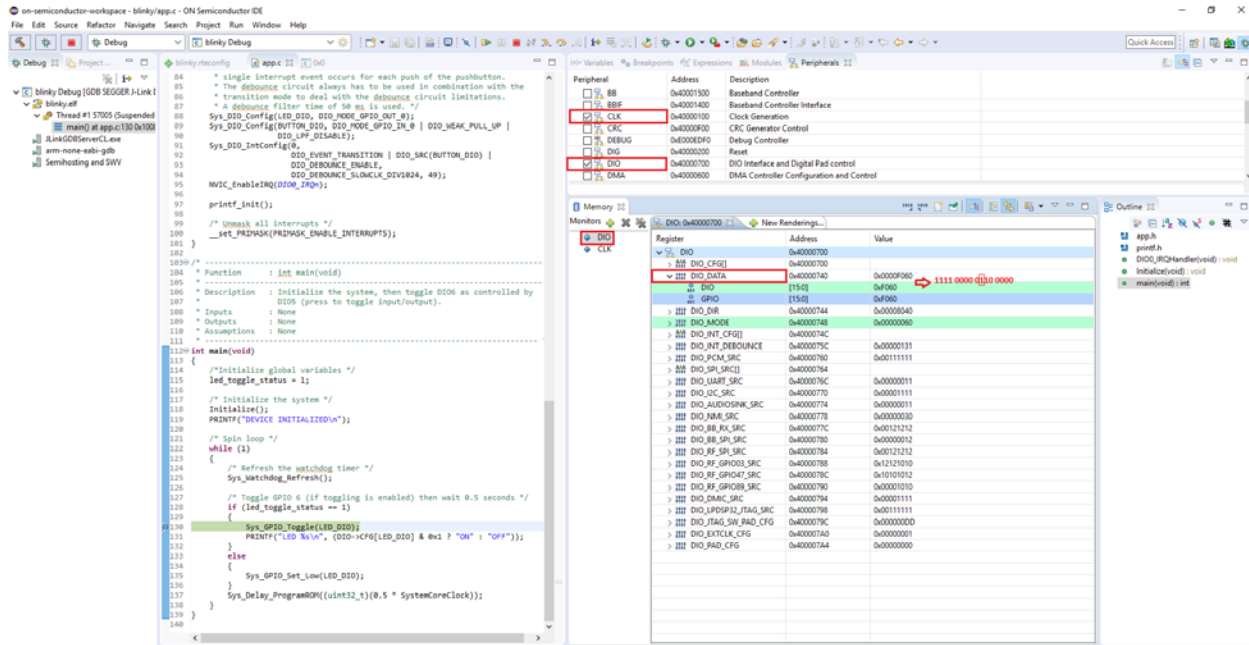

Figure 13. Peripheral Registers View Perspective in Debug Session After Setting SVD Path
4. In the Peripherals window, select **DIO**. Open the Memory window to monitor the RSL10 peripheral. Read only registers are highlighted in green. You might want to drag your Memory window and place it side-by-side with your source code view (see Figure 13) to prevent the console from switching focus away from the Memory window.